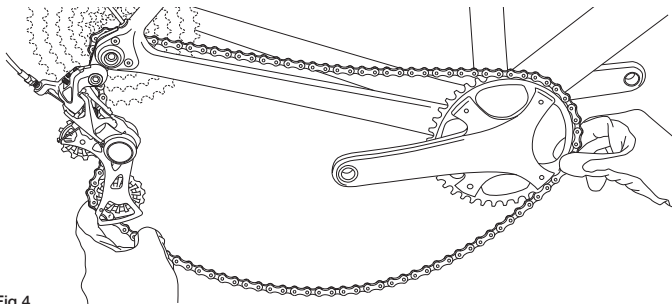

Fig.4
- Push the rocker downwards to reduce the chain tension and bring it outwards, removing it from the chainring and hand crank (Fig. 4).